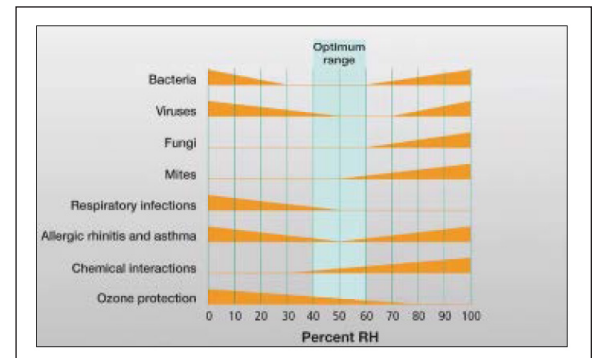

Figure 2 Health Impacts of Relative Humidity
- **People:** Controlling relative humidity between 40-60%RH reduces the risk of infection along with other respiratory illnesses (see Figure 2 below). Virus infection is reduced above 40%RH for 3 reasons: viruses inactivate above 40%RH, their transmission as an aerosol is hampered above 40%RH, & our bodies do better fighting viruses above 40%RH. It also makes for a comfortable environment.